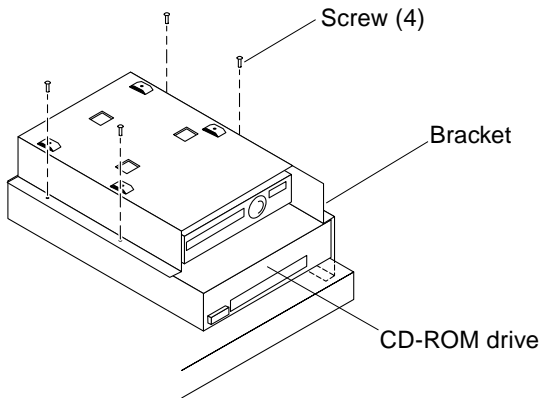

FIGURE 2-11 Positioning the CD-ROM Drive
1. **Position the bracket on top of a flat surface, so that the CD-ROM drive is flat** (FIGURE 2-11).
2. **Use a Phillips screwdriver to remove the four screws securing the CD-ROM drive to the drive bracket** (FIGURE 2-11).